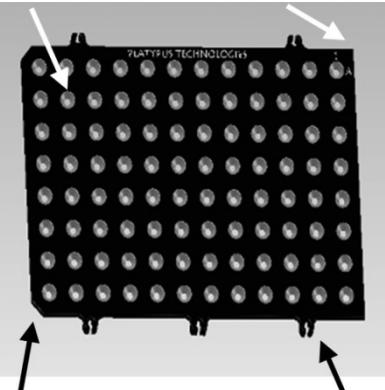

Figure 3. Features of Detection Mask
- Orient the chamfered corners of the mask with those of the 96-well plate, ensuring that the A1 corner of the mask is aligned with the A1 well of the plate (see **Figure 3**).